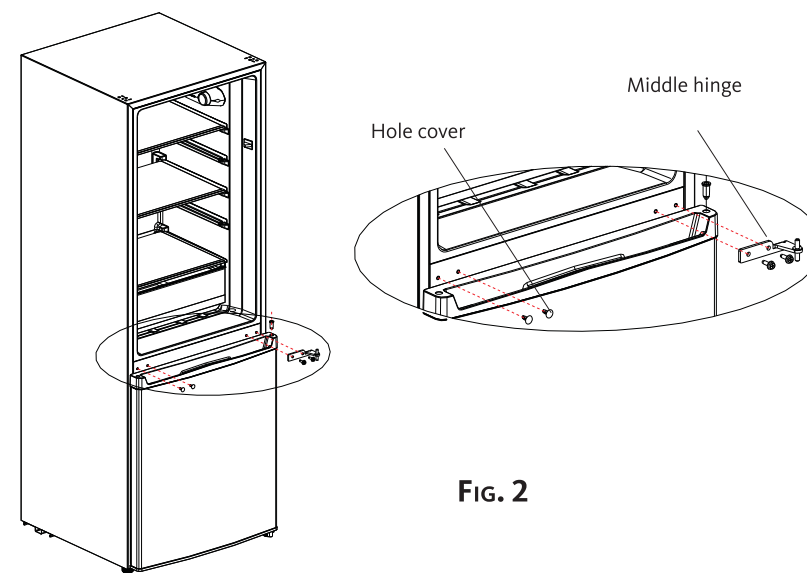

FIG. 2
2. Carefully lift the refrigerator compartment door and place it on a soft surface to avoid scratches. Remove the 2 hole covers. Unscrew and remove the middle hinge (see figure 2).